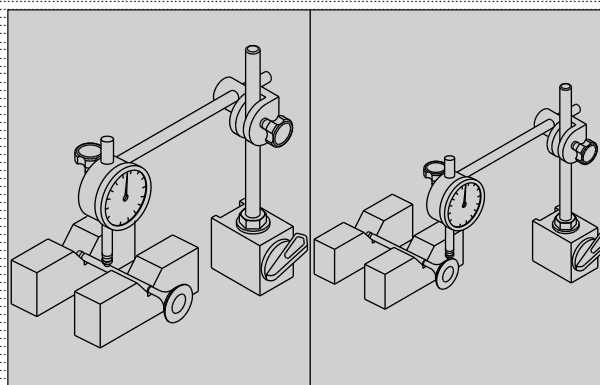

Fig. 3.142
- Using special tools, measure the runout on valve stem and valve face. Replace valve with a new one if measured runout exceeds the service limit. (Fig. 3.142)